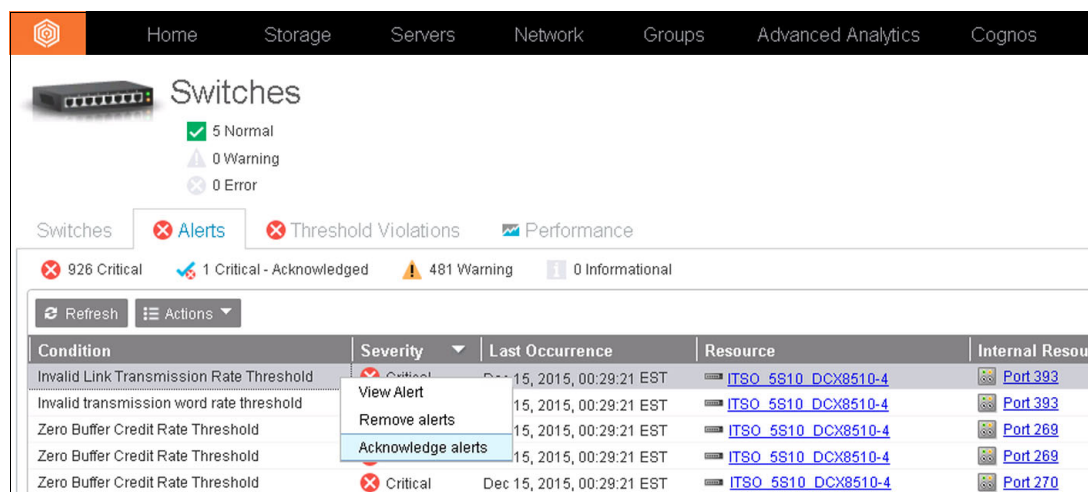

Figure 6-48 Managing alerts
2. In the Switches view, click the Alerts tab. The Alerts main window is displayed as shown in Figure 6-48.
Similarly to the way the Alerts are displayed on a centralized view (see Figure 6-48 on page 184), IBM Spectrum Control allows you to review and manage all the performance thresholds violations by using the Thresholds Violations centric view. This view enables you to quickly identify potential issues on your fabric and giving you a start point for your more complex troubleshooting investigations. In order to access this view, complete the following steps: